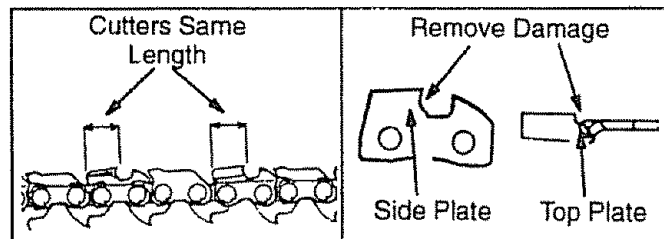

Figure 36
- Keep all cutters the same length when filing. See Figure 36.
- File enough to remove any damage to cutting edges (side plate and top plate) of cutter. See Figure 36.